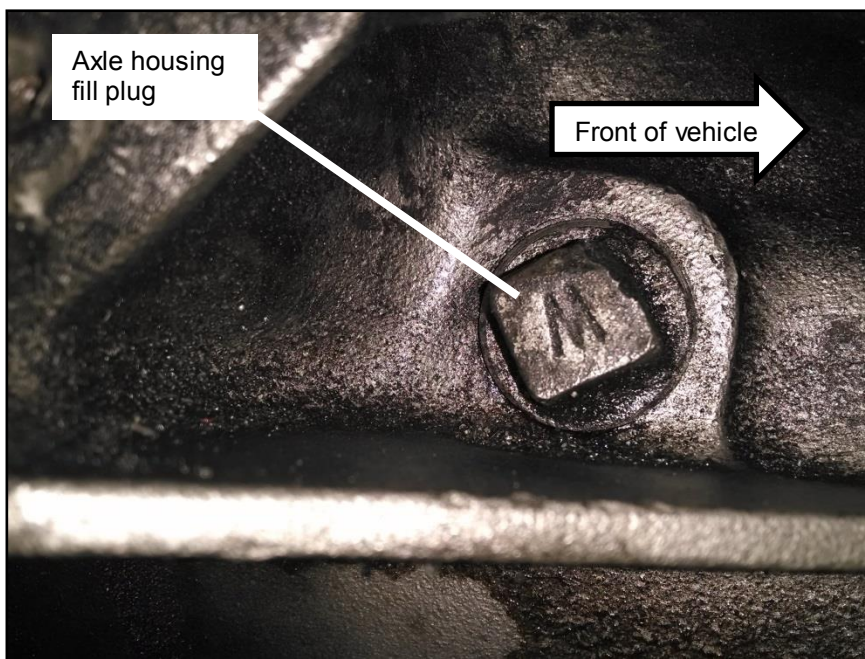

Figure 1
STEP 3. Remove the axle housing fill plug with a 5/8" wrench (See Figure 1).